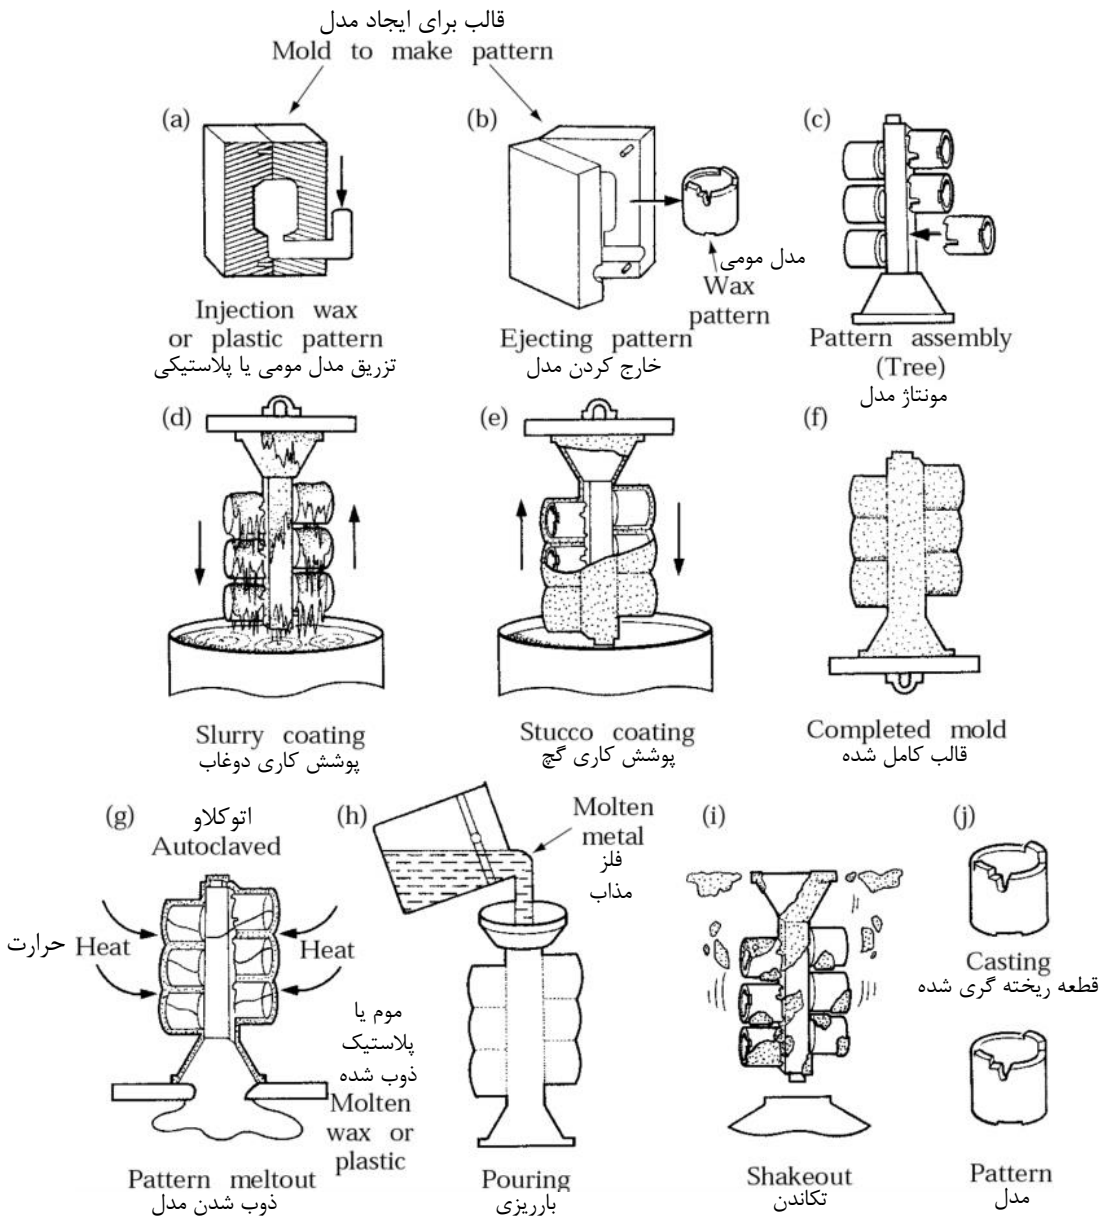

Fig. 3 Schematic illustration of investment casting, (**lost wax** process).
D. Write a short description about the casting processes illustrated in Figs. 3 and 4.